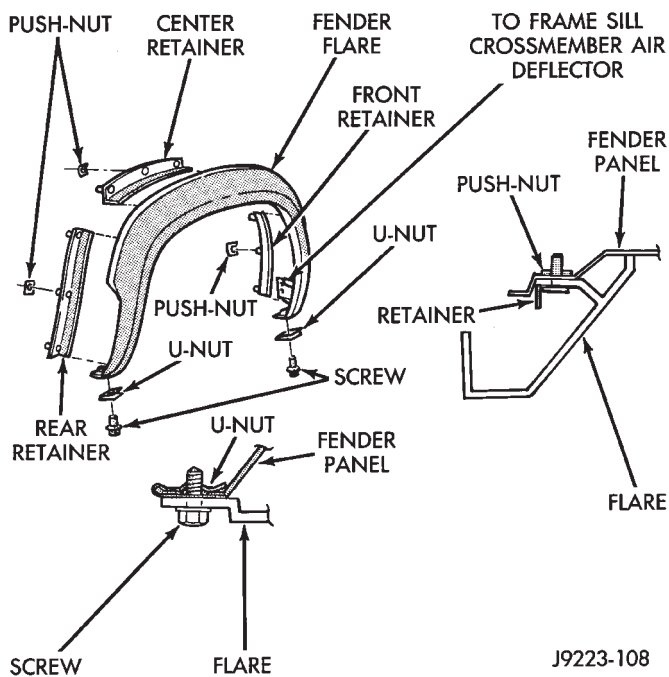

Fig. 50 Fender Flare & Retainers
- (1) Position the fender on the inner fender panel.
- (2) Install all of the fender screws finger-tight.
- (3) Install the fender braces.
- (4) Align the fender with the body panels and tighten the fender screws to 8.5 N·m (76 in-lbs) torque.
- (5) Install the grille opening panel (GOP).
- (6) Install the air deflector.
- (7) Install the fender flare and retainers (Fig. 50). Then install the fender liner.